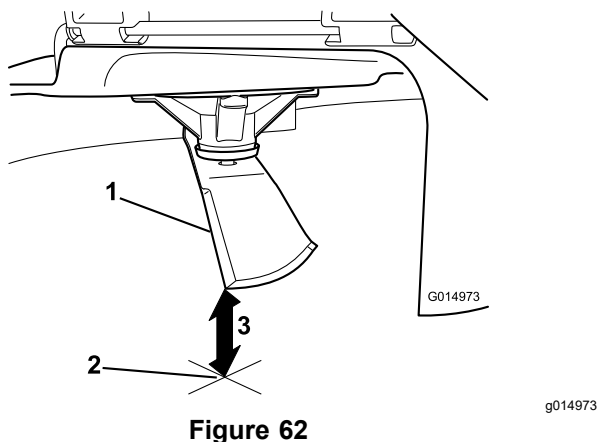

Figure 62
5. Measure from the tip of the blade to the flat surface (Figure 62).